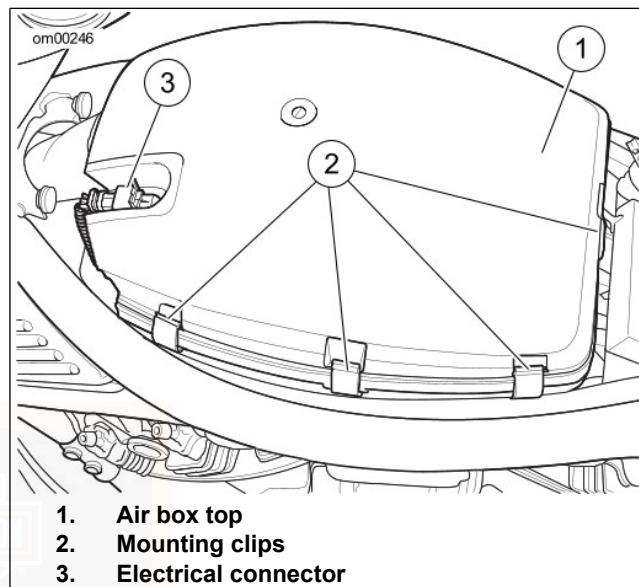

Figure 43. Air Box Top
4. See Figure 43. Remove electrical connector (3) by pushing down on bail wire to unlock. Eight clips, three per side, one at the rear and one in the front under the snorkel, secure the air box top. Release the clips. Remove the air box top.